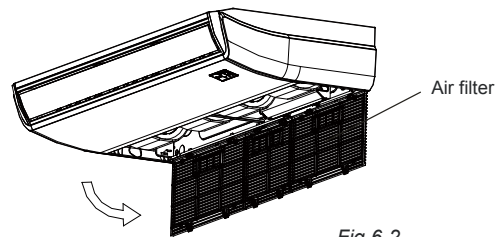

Fig. 6-2
- Take out the air filter. (Refer to Fig.6-2)
- Re-install the air filter in the reverse order of Fig.6-2.